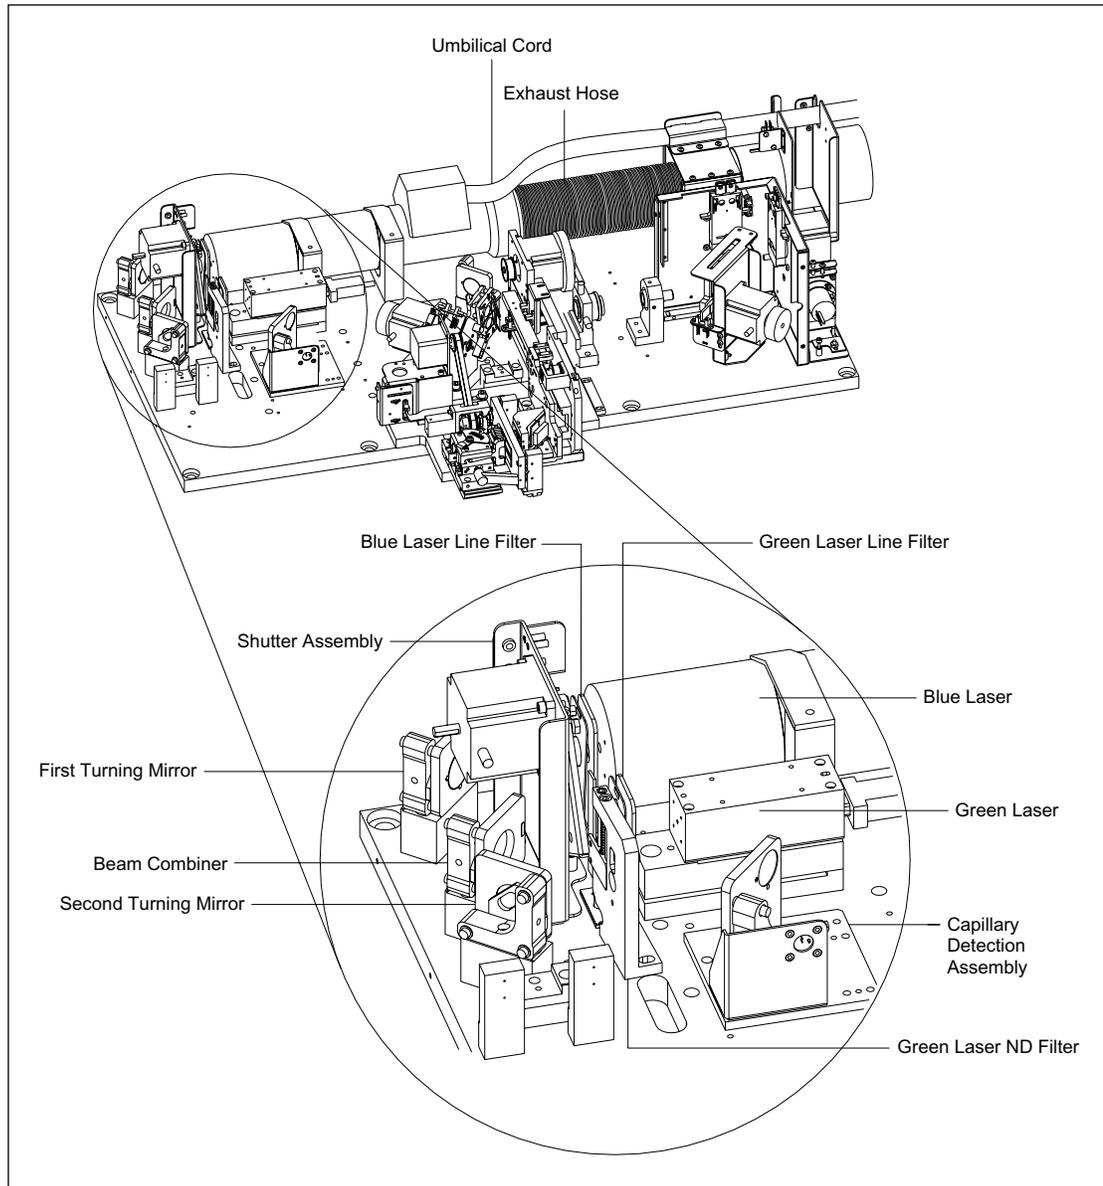

Figure 4-16. Optical Components Assembly (Sheet 1 of 3).
Figures 4-16, 4-17, and 4-18 illustrate the positions of the optical components as they are installed on the optics baseplate. The optics enclosure assembly has been removed for clarity. For the sake of this explanation, the optical components are separated into three physical groups as shown in the three different illustrations. The first group of optical components (figure 4-16) consists of the blue laser with exhaust hose and umbilical cord, green laser, blue and green laser line filters, green neutral-density (ND) filter, shutter assembly, first and second turning mirrors, beam combiner, and capillary detection assembly.